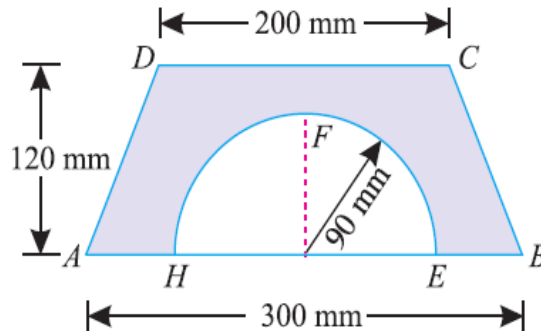

Fig.12
2. A semicircle of 90 mm radius is cut out from a trapezium as shown in Fig.12 Find the position of the Centre of gravity of the figure. [10 M]